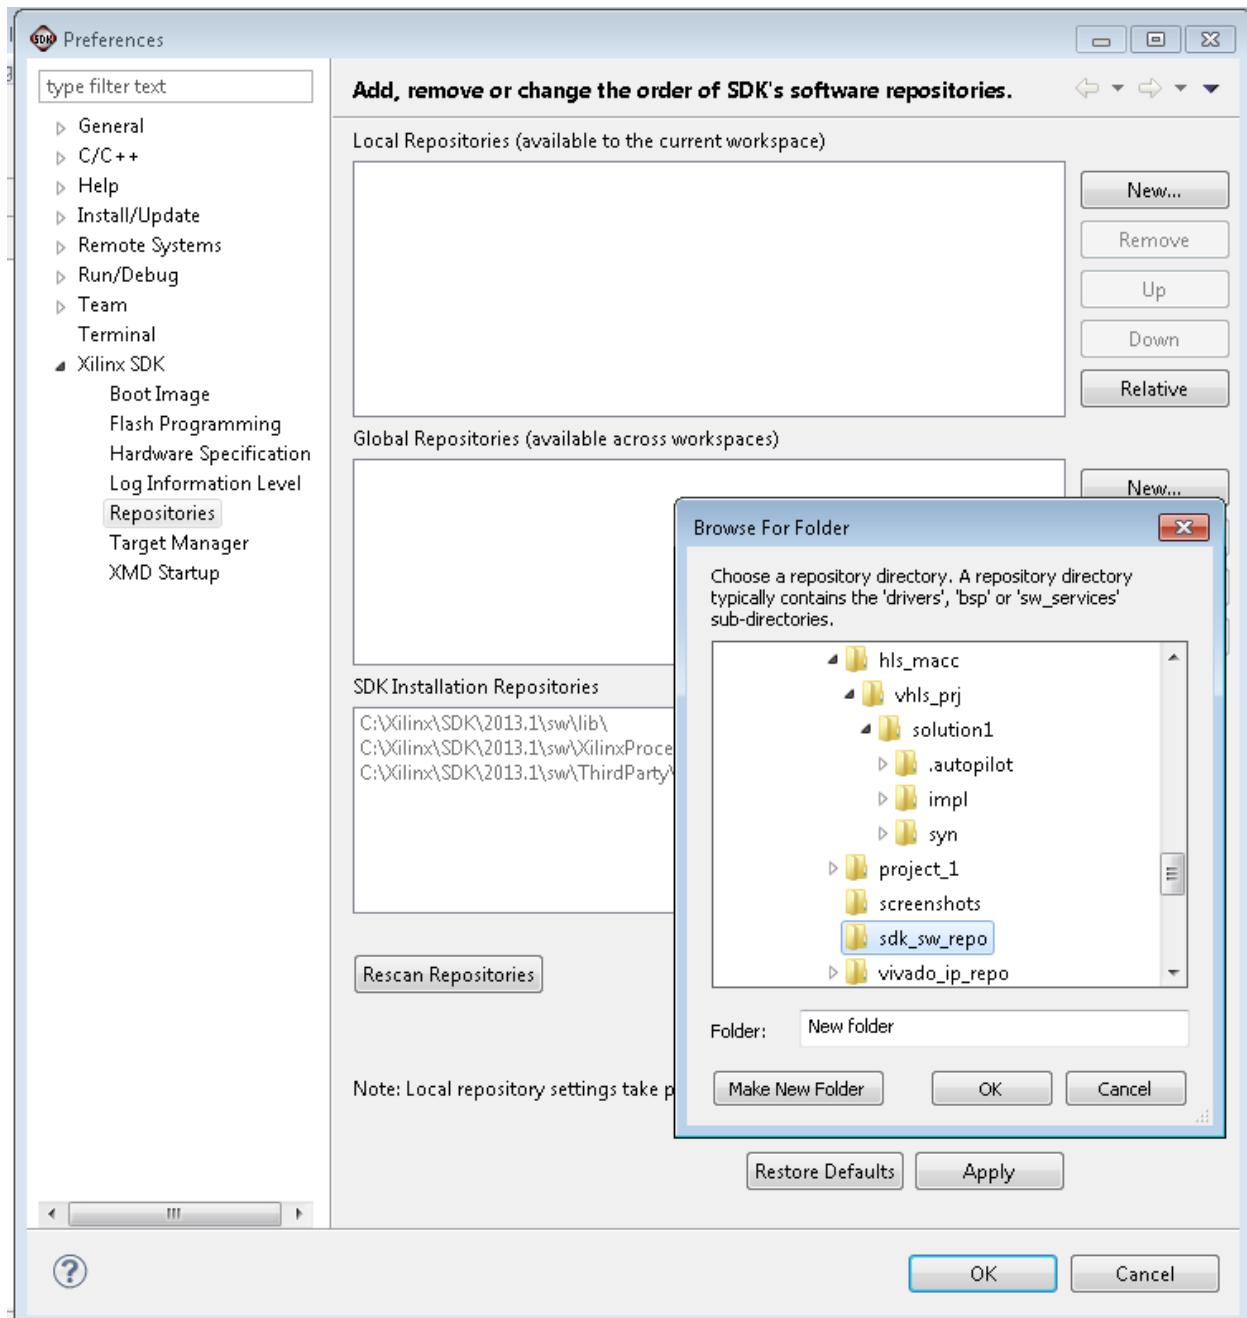

Figure 240 SDK Project Properties
- e. Enter sdk_sw_repo as the new name (Figure 240).